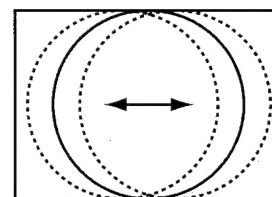

Fig.1
- Adjust the horizontal location to obtain picture centering (fig. 1)